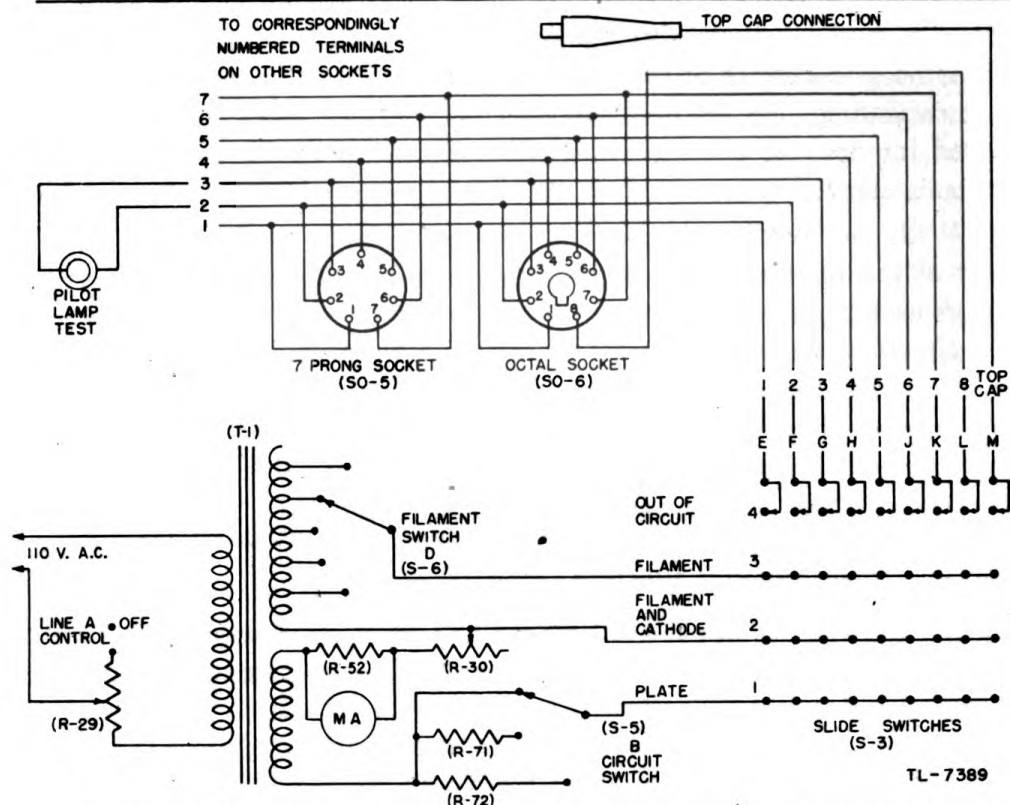

FIG. 12. MODEL 104 COMBINATION TESTER, SIMPLIFIED TUBE-TESTING CIRCUIT
a. Combination Tester as Tube Checker (fig. 12). Control A (LINE CONTROL) is a 164-ohm rheostat (R-29) which adjusts transformer (T-1) for changes in line voltage. Control B (S-5) is a 10-position 4-wafer switch used to select the proper circuit for tube tests. Control C (R-30) is a 200-ohm potentiometer which provides the proper load for the tube being tested. Control D (S-6), a 20-position 4-wafer switch, sets the proper filament voltage for the tube under test. Slide switches (S-3) are single-pole 4-position switches used to connect the tube terminals to the test circuits. Tube socket terminal 1 connects to the arm of switch E, terminal 2 to the arm of switch F, etc. The arm of switch M is connected to the top-cap clip. In position 1, the slide switch arms connect Control B and the proper load resistor to a 30-volt winding on transformer (T-1), providing the correct plate voltage for the tube being tested. In position 2, the slide switch arms connect the common leads of the two secondary windings on transformer (T-1), to the cathode of the tube being tested. In position 3, the slide switch arms connect the filament taps on the transformer (T-1) to the tube filament through control D. The emission of the tube is shown on the indicating meter. In position 4, the slide switch arms are out of the tube testing circuit. When the LINE CHECK button is pressed, a secondary winding of transformer (T-1) is connected to the type-H rectifier (RE-2), which changes the a-c to d-c voltage. The d-c voltage is then read on the indicating meter. The fila-